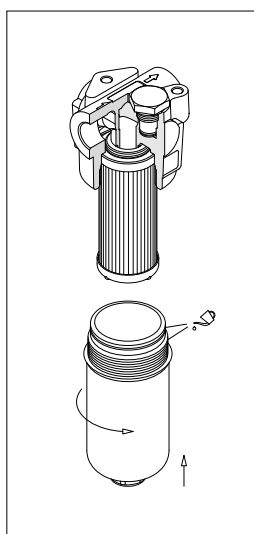

fig. 21
- (Fig. 21) Lubricate the thread and the O-ring of the bowl, then screw the bowl in referring to the tightening torque table in paragraph 3